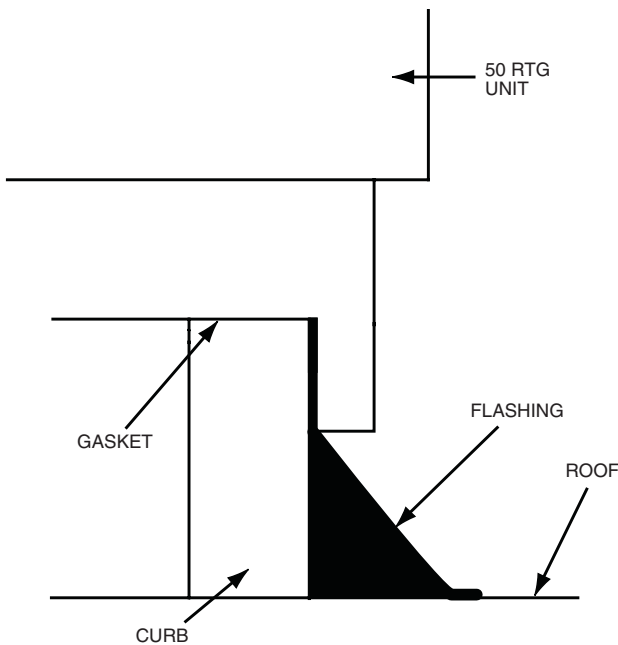

Fig. 3 — 50RTG Curb Installation
Step 4 — Mounting the Unit — For proper operation, units must be mounted on a roof curb as shown in Fig. 3. Follow these guidelines when installing the roof curb: